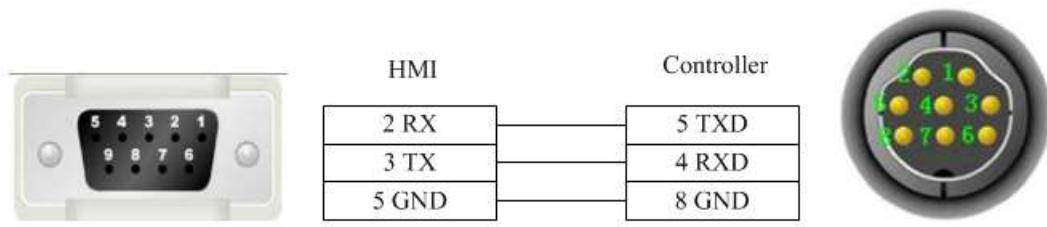

Fig. 19
- ③ After the “Decompile Success!” dialog box appears, click “OK” to complete the decompiling, as shown in Fig. 19.